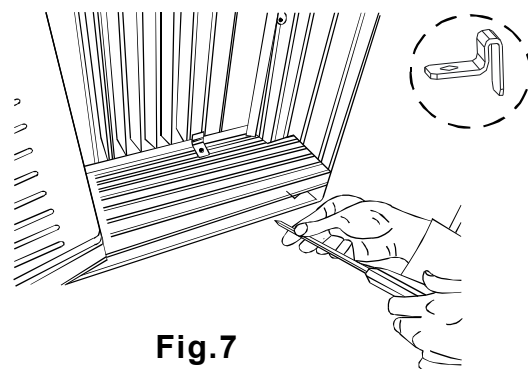

Fig. 7
- A. Place the frame lock between the frame extensions and the window sill as shown (Fig. 7). Drive 3/4" (19mm) or 1/2" (12.7mm) locking screws through the frame lock and into the sill.